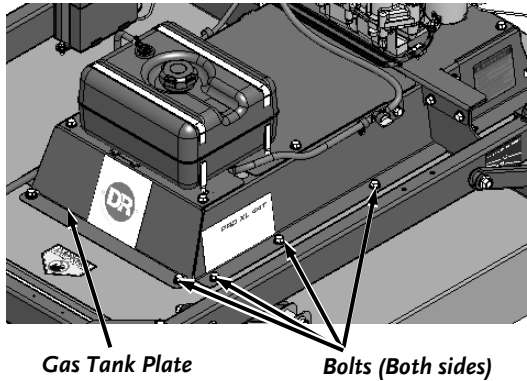

Figure 33
3. Using a 9/16" Wrench, remove the eight bolts securing the Gas Tank Plate (**Figure 33**).